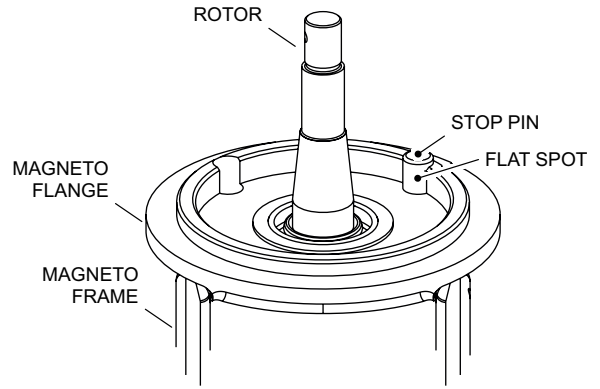

Figure 3.3.4E
1. Inspect the stop pin for looseness, cracks or corrosion. None of these conditions are acceptable. Replace the magneto frame as necessary. (See Figure 3.3.4E).